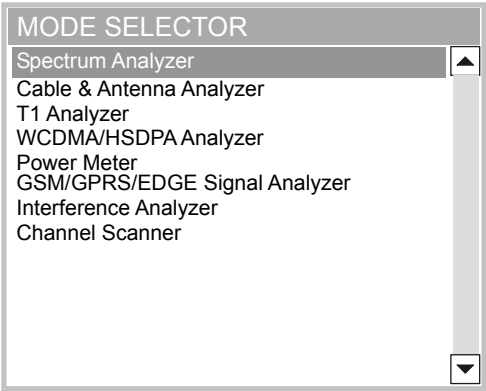

Figure 2-16. Mode Selector Menu
To access the functions under the Mode menu, press the **Shift** key, then the **Mode** (9) key. Use the directional arrow keys or the rotary knob to highlight the selection and press the **Enter** key to select. The list of modes that appears in this menu will vary depending upon the options that are installed and activated in your instrument. Figure 2-16 is an example of the Mode menu. Your instrument may not show the same list.